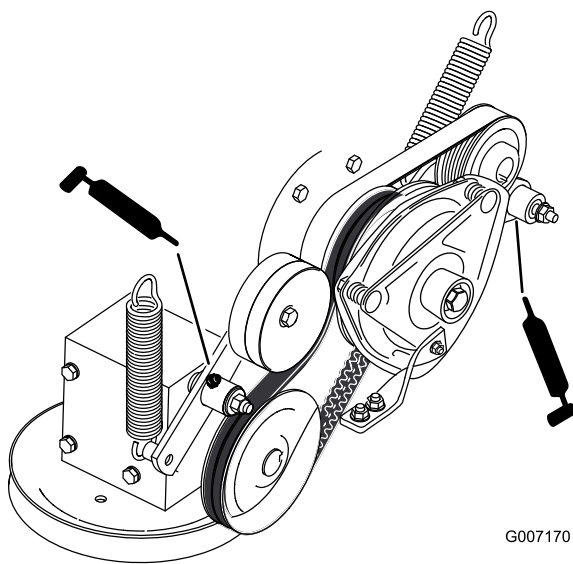

Figure 35
7. Grease the PTO drive belt idler arm (Figure 35).
8. Grease the pump belt idler arm (Figure 35).